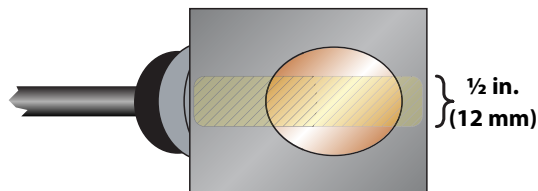

Figure 12: Application of couplant
For DTTR, DTTN and DTTH transducers, place a single bead of couplant, approximately 1/2 inch (12 mm) thick, on the flat face of the transducer. See *Figure 12*. Generally, a silicone-based grease is used as an acoustic couplant, but any good quality grease-like substance that is rated to not flow at the operating temperature of the pipe is acceptable. For pipe surface temperature over 150° F (65° C), use Sonotemp® (P.N. D002-2011-011).
5. For DTTR, DTTN and DTTH transducers, place a single bead of couplant, approximately 1/2 inch (12 mm) thick, on the flat face of the transducer. See *Figure 12*. Generally, a silicone-based grease is used as an acoustic couplant, but any good quality grease-like substance that is rated to not flow at the operating temperature of the pipe is acceptable.
3. Place a single bead of couplant, approximately 1/2 inch (12 mm) thick, on the flat face of the transducer. See *Figure 12* on page 20.
See *Figure 12 on page 20*.